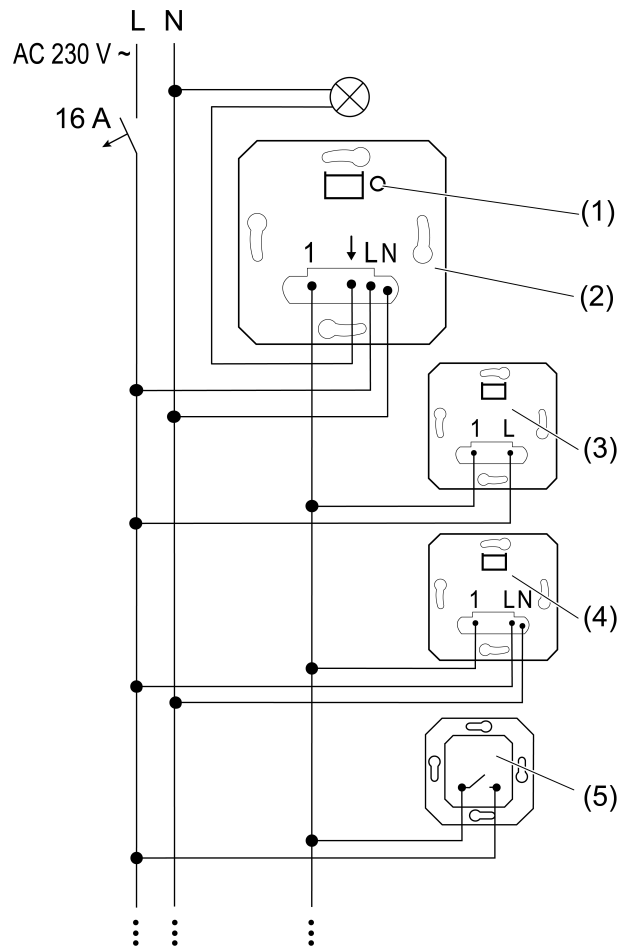
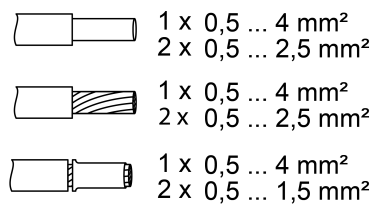

Figure 1: Connection diagram with optional extensions
Figure 2: Terminal-specific cable cross-section:
- Connect the switch insert (2) according to the connection diagram (Figure 1). Note clampable cable cross-sections (Figure 2).
- Connect the 2-wire extension (3), the 3-wire extension (4) and as an option, the push-button with NO contact (5).
- i** The load can be switched by briefly pressing the **TEST** button (1).